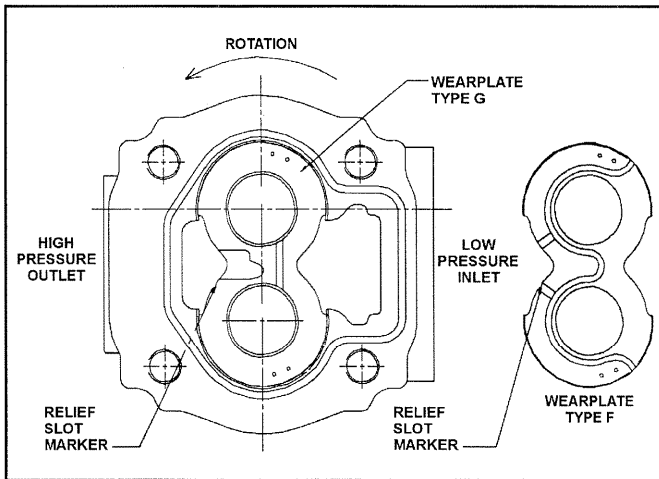

Figure 10: Wearplate Assembly - Counter-Clockwise Rotation
7. Assembly of a counter-clockwise rotation pump is shown in Figure 10. For counter-clockwise rotation, wearplate type G must be installed into position first. The backup seal must be installed face down. Make sure the high pressure side of the wearplate is adjacent to the outlet port, with the relief slot positioned as shown.